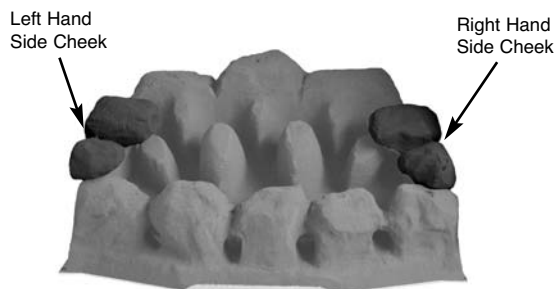

Fig. 21
3. Place the side cheeks into position, making sure they are positioned either side of the fuel bed and the overhang is at the front. The outside edge should be in contact with the radiant box ceramic liner. Ensure that the lower part of the side cheeks sit on the front coal (Fig. 21).